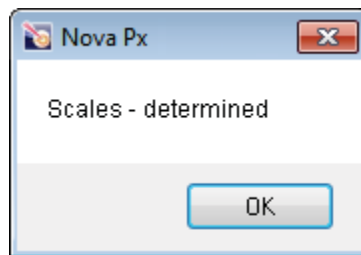

Fig. 7-21. Message box
- This will open a Message box (Fig. 7-21), close this box by clicking the **OK** button.